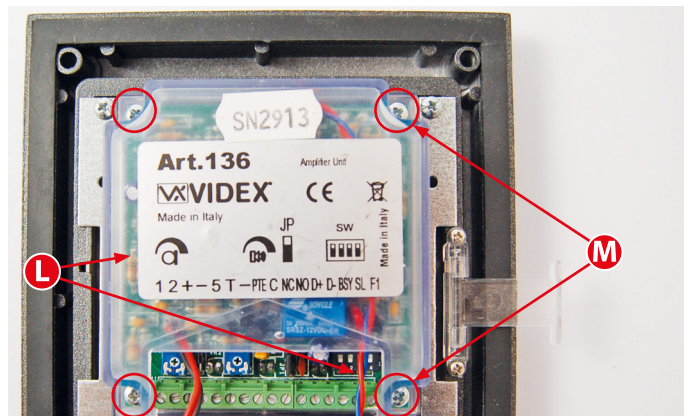

Fig. 27
15. Next replace the back speaker plastics into its original position over the main speaker pcb. Ensure that the **red/blue** wires feed down pass the green pcb terminals along the bottom edge of the pcb, as shown in **Fig.27, L**.
16. Secure the back speaker plastics into position with the original four M3x12 retaining screws, as shown in **Fig.27, M**.